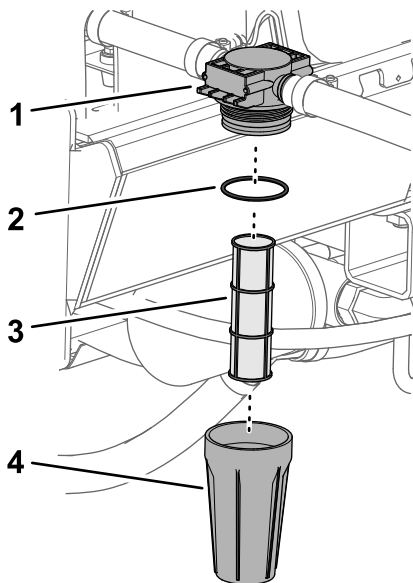

Figure 41
1. Rotate the filter counterclockwise to remove the bowl from the filter head (Figure 41).
2. Inspect the filter element for damage or an accumulation sediment or debris (Figure 41).
- A. Remove the filter element from the filter head (Figure 41).
- C. Insert the filter element into the filter head (Figure 41).
3. Inspect the O-ring for damage (Figure 41).
4. Thread the bowl clockwise into the filter head, and tighten by hand (Figure 41).